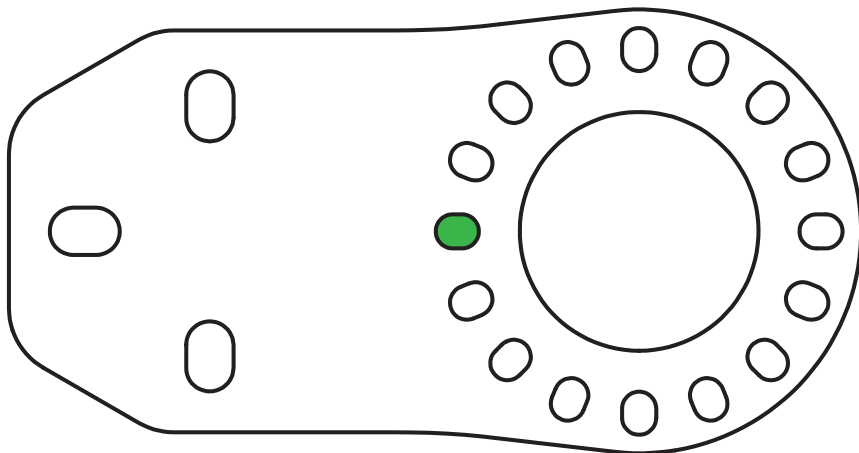

Figure 5 - Correct Bracket Hole for Pin on Top of Catch Can
3. Position the pin into the bracket hole shown in Figure 5.